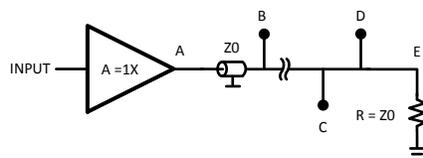

Figure 36.
- Use one buffer to drive to multiple points on one transmission line (see Figure 36)
Another transmission line possibility is to route the trace via several points along a transmission line (see Figure 36). This is only possible if care is taken to observe certain restrictions. Failure to do so will result in impedance discontinuities that will cause distortion of the signal. In the configuration of Figure 36 there is a transmission line connected to the buffer output and the end of the line is terminated with Z_0 . We have seen in the section, Connecting a Load Using a Transmission Line, that for the condition above, the signal throughout the entire transmission line has the same value, that the value is the nominal value initiated by the opamp output, and no reflections occur at the end point. Because of the lack of reflections no interferences will occur. Consequently the signal has everywhere on the line the same amplitude. This allows the possibility of feeding this signal to the input port of any device which has high ohmic impedance and low input capacitance. In doing so keep in mind that the transient arrives at different times at the connected points in the transmission line. The speed of light in vacuum, which is about 3×10^8 m/sec, reduces through a transmission line or a cable down to a value of about 2×10^8 m/sec. The distance the signal will travel in 1ns is calculated by solving the following formula: